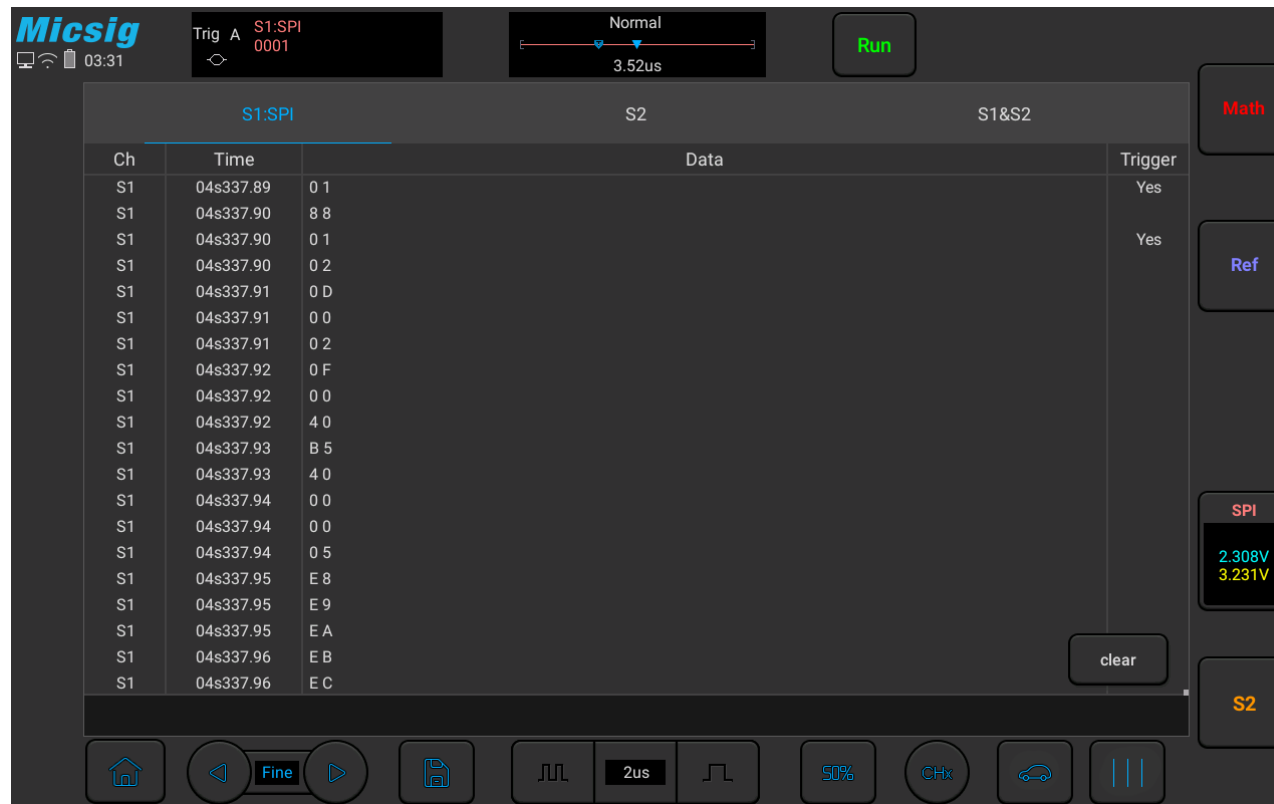

Figure 12-21 SPI Text Interface
**SPI text interface description, as shown in Figure 12-21:**
- (1) “Ch”: bus channel.
- (2) “Time”: Time intervals between the last frames to current frames.
- (3) “Data”: According to the data word length setting, the decode data is displayed. For example, if the data word length is 8bit, only one byte displays in the data column; if the data word length is 16bit, 2 bytes display in the data column; if the data word length is 24bit, 3 bytes display; and if the data word length is 32bit, 4 bytes display.
- (4) “Trigger”: “Yes” means the frame reaches trigger condition.